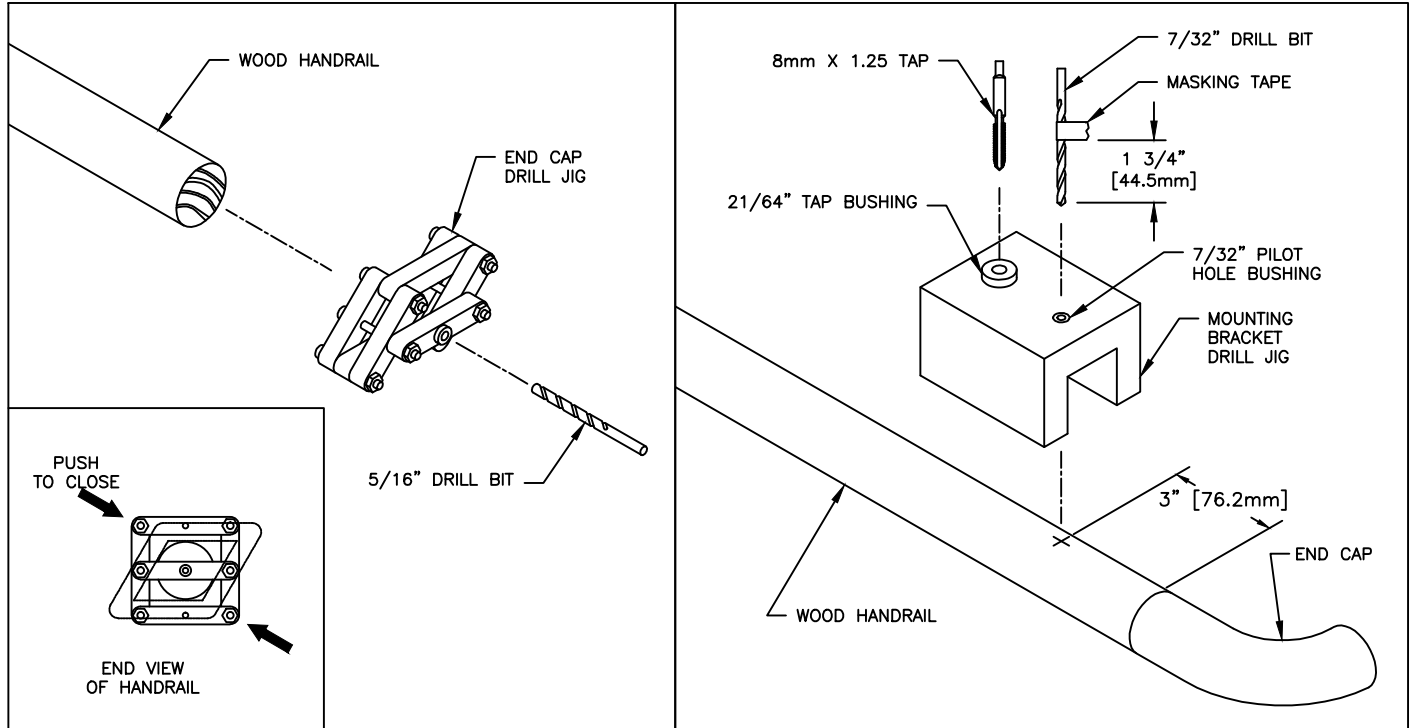
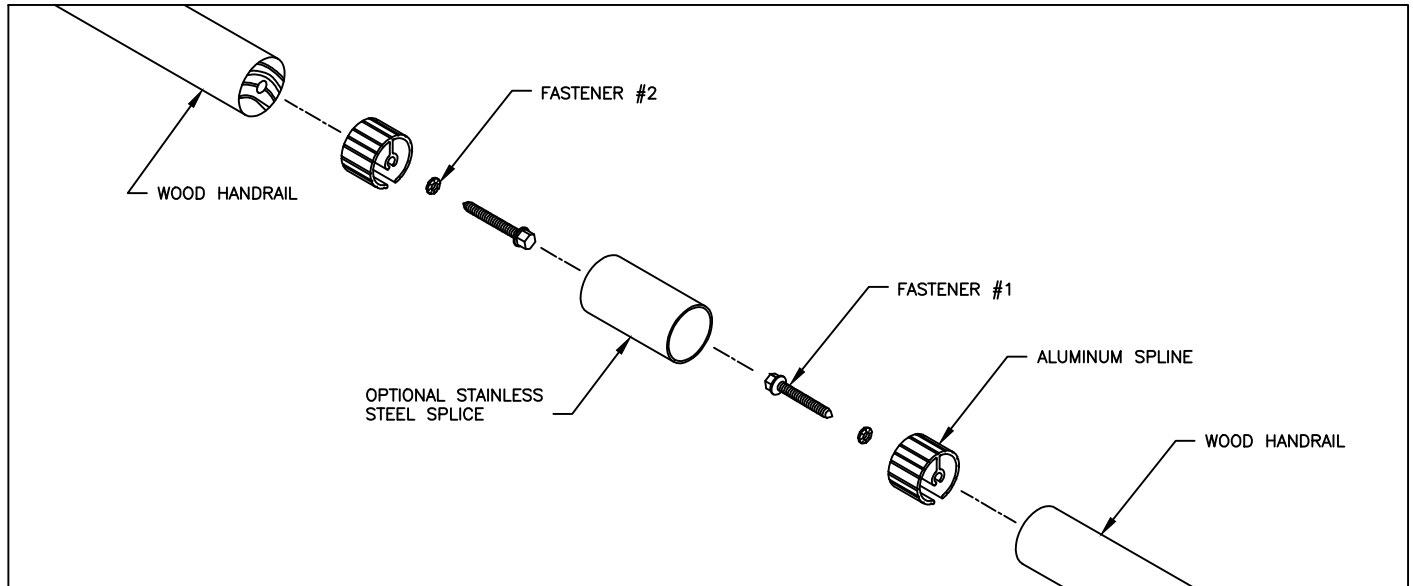

FIGURE 5.
FIGURE 9.
5. INSTALL HANDRAIL SPLICE IF REQUIRED (SEE FIGURES 5 & 8). FOR OPTIONAL STAINLESS STEEL SPLICE REFER TO FIGURE 9.
- 9.1. DRILL PILOT HOLE AS PER DRILL JIG INSTRUCTIONS (SEE FIGURE 5).
DRILL JIG FOR END CAPS/CORNERS AND OPTIONAL STAINLESS STEEL SPLICE. REFER TO FIGURE 5.
- 2.1. DRILL PILOT HOLES AS PER OPTIONAL SPLICE DRILL JIG INSTRUCTIONS (SEE FIGURE 5).
CAULKING GUN CONVERSION KIT. REFER TO FIGURE 9.
3. PLACE THE CONVERSION KIT, WITH MIXER NOZZLE AND EPOXY CARTRIDGE, IN A STANDARD 10 OZ CAULKING GUN AS SHOWN IN FIGURE 9. PLUNGER WILL ATTACH TO CIRCULAR PUSH PLATE ON CAULKING GUN.